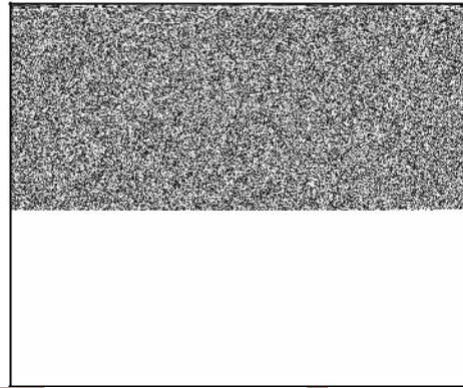

Figure 29
4. Install push rods through guides and into same positions as removed. Ensure rods are seated in valve tappets. Place valve stem caps (if used) on valve stems (Figure 29).